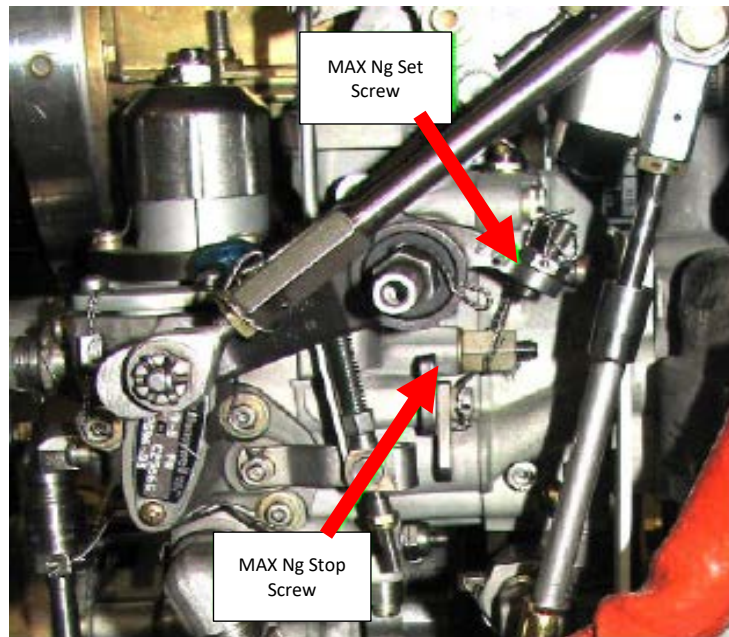
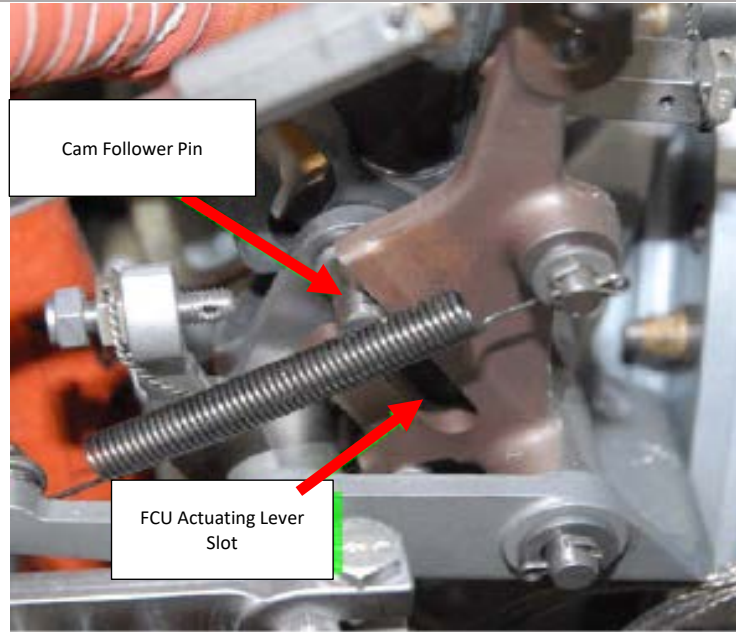

Figure 76-41 - Max Ng Stop and Set Screw (Shown in Idle Position)
Figure 76-42 - Cam Follower Pin (Shown in Idle Position)
- N. While the power is set to MAX, verify that the Maximum Ng Stop Set Screw firmly contacts the Max Ng Stop, as shown in **Figure 76-41**. Also, as shown in **Figure 76-42**, at the cambox verify that the cam follower pin does not reach the bottom of the FCU Actuating Lever slot.